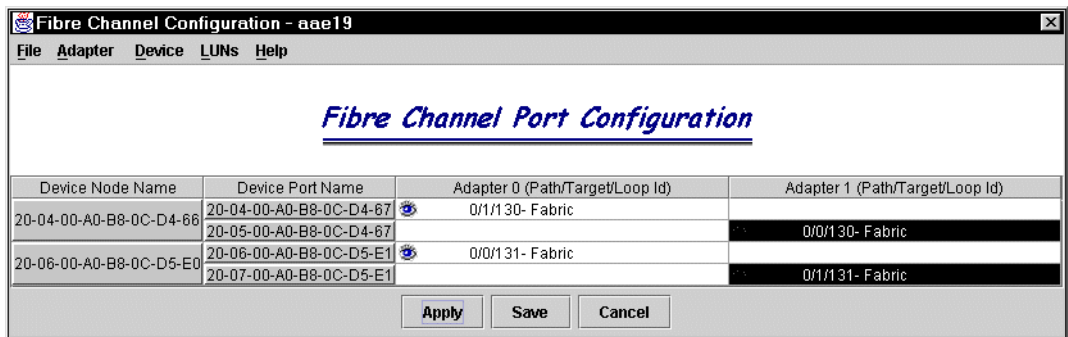

Figure 4-6 FAST MSJ Fibre Channel port configuration
- The port configuration windows gives you a view of the Fibre Channel subsystems that are seen through each host adapter. The left column shows the two FAST700 attached to the system with node names. Each FAST houses two individual controllers, each with its own Fibre Channel port name, which is listed in the second column. The last two columns represent the host adapters in the system. Since Linux is not multipath aware, one adapter is always visible to the operating system, noted by a small eye in the particular entry, and the other one is hidden (Figure 4-6). Configure both adapters: one as visible and the other as hidden.
9. If you finished configuring your logical drives, close the LUN configuration window and save the configuration to the host system in the Port Configuration window (Figure 4-6). A confirmation appears if the configuration saved successfully.